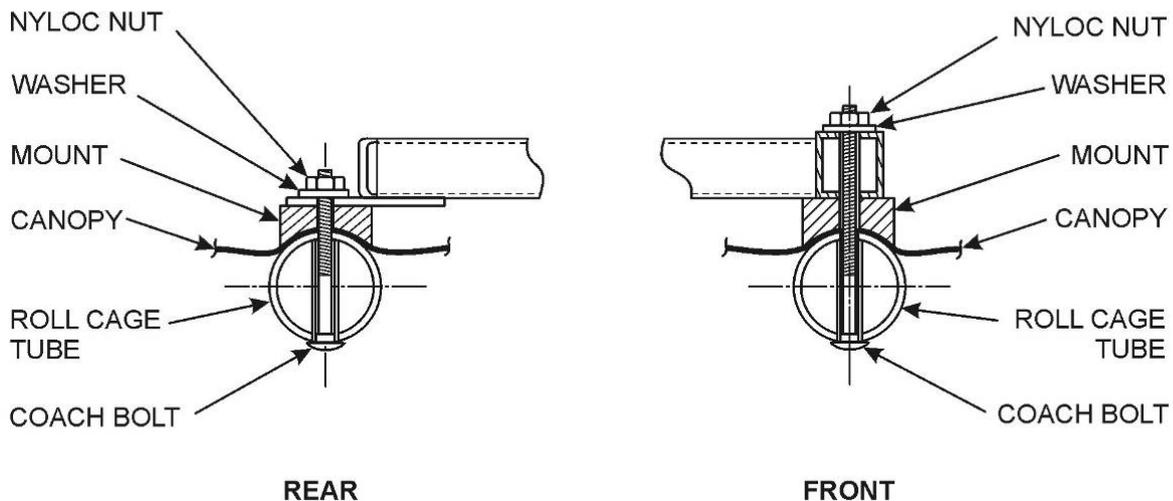

Figure 107 ROPS / RCB Repair Procedure
- j. Mount the camouflage net carrier (Table 20 Item 1) using items 2 and 3.
- k. Secure the camouflage net carrier using M8 coach bolts (Table 20 Item 6 for front ROPS and 7 for rear ROPS or RCB) and Nyloc nuts (Table 20 Item 8) inserted from the bottom of the ROPS or RCB (Figure 107), so that no thread or sharp edges are protruding into the vehicle interior etc.